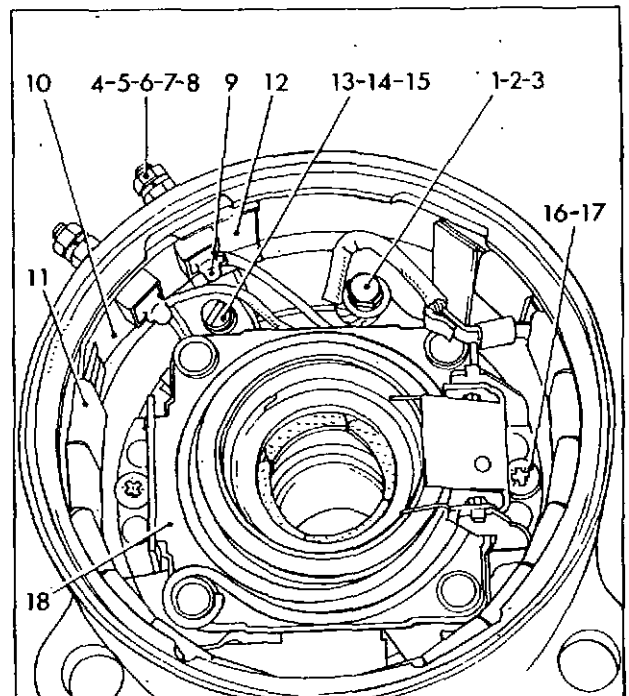
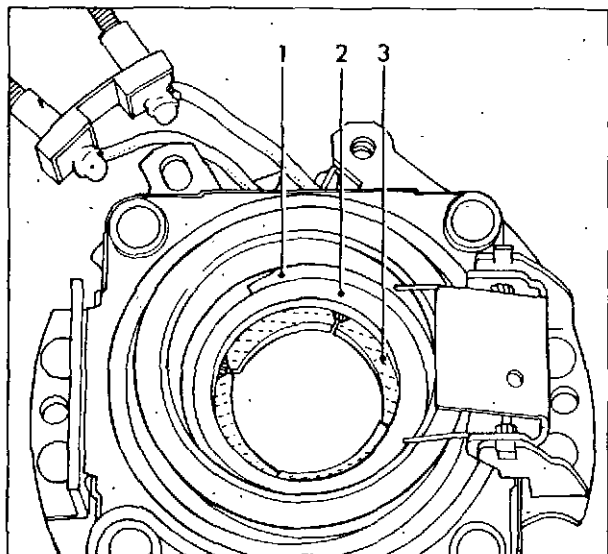

Fig. 6 Removing solenoid switch unit
Fig. 7 Removing solenoid plunger segments
Solenoid switch unit (fig. 6 and fig. 7)
Remove 'Spiroflex' circlip (1) fig. 7 by levering the end inwards and 'winding' it out of its groove.